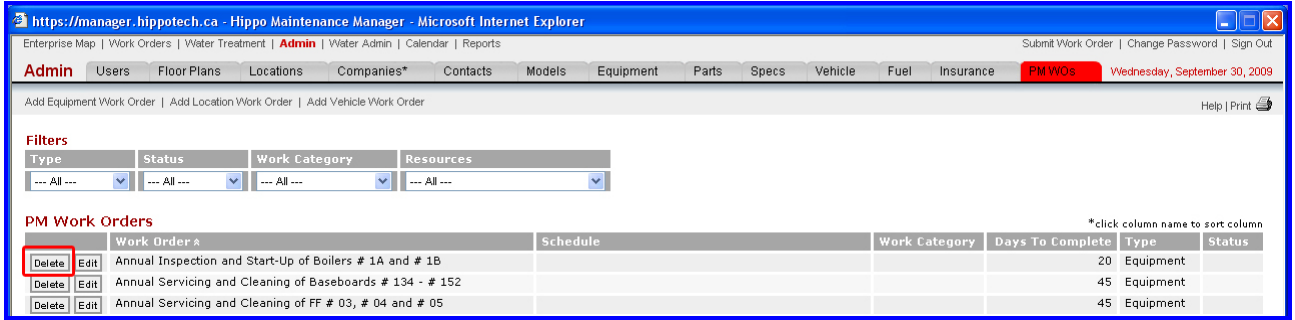

Figure 45: Delete PM Work Order
2. Click the **Delete** button beside the PM work order (schedule) that you want to delete (See Figure 45).